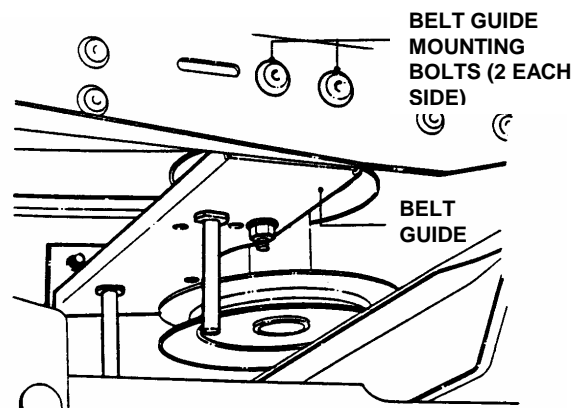

FIGURE 4.25
1. Remove two belt guide mounting bolts (2 each side) from each side of tractor frame. See Figure 4.25.